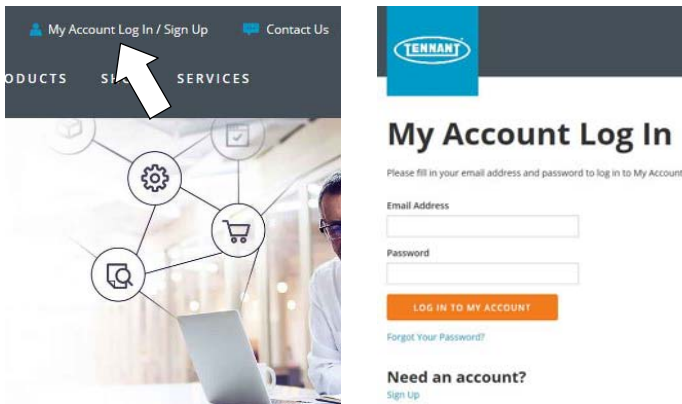

Fig. 11
1. Press “My Account Log In/Sign Up” to open or create an account (Figure 11).